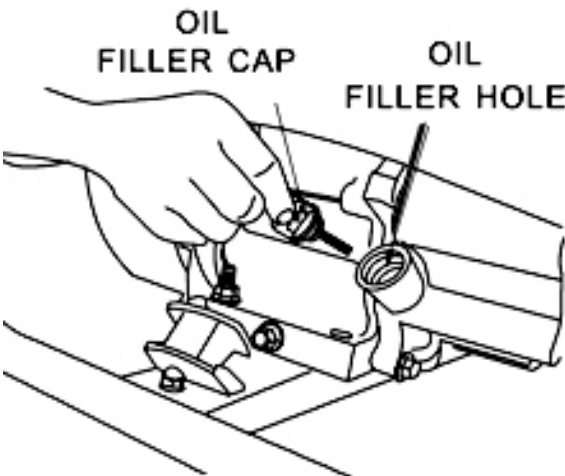

Figure 1 - Unscrew the Oil Cap
2. Unscrew the oil filler/dipstick cap from the engine as illustrated in Figure 1.